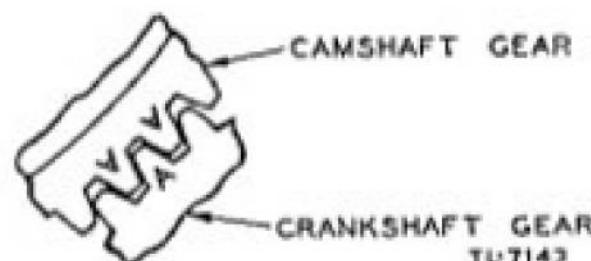

Figure 27. Correct position of timing gears.
a. With the engine front cover removed, the timing-gear train is accessible. The camshaft gear operates directly off the crankshaft gear and drives the accessory shaft drivegear. These three gears must be in their proper places to have the engine timed properly. When installing the camshaft gear, make certain the timing marks are aligned as illustrated in figure 27.
(4) When installing the cam-shaft, make certain that the marked teeth on the gear meshes with the marked teeth on the crankshaft gear, as shown in figure 27.